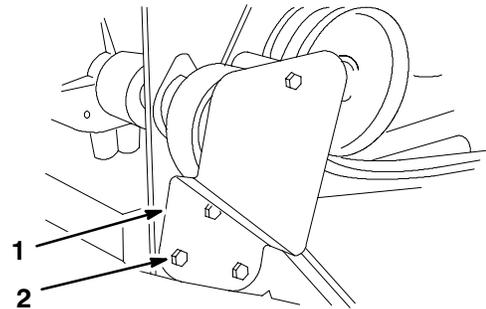

Figure 4
2. Remove the rear capscrew securing support bracket to each side of frame (Fig. 4) Discard capscrews and nuts.